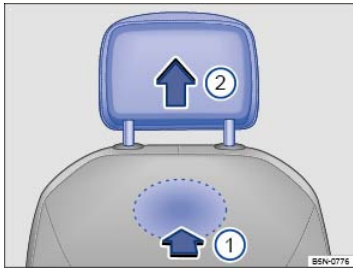

Fig. 86 Removing the front head restraints.
- Locate the circular button on the inside of the seat ⇒ Fig. 86 (in the blue oval area ①, not visible) and press it firmly in the direction of the arrow. This requires force.
- While pressing button ①, pull the head restraint out completely in the direction of the arrow ⇒ Fig. 86②.